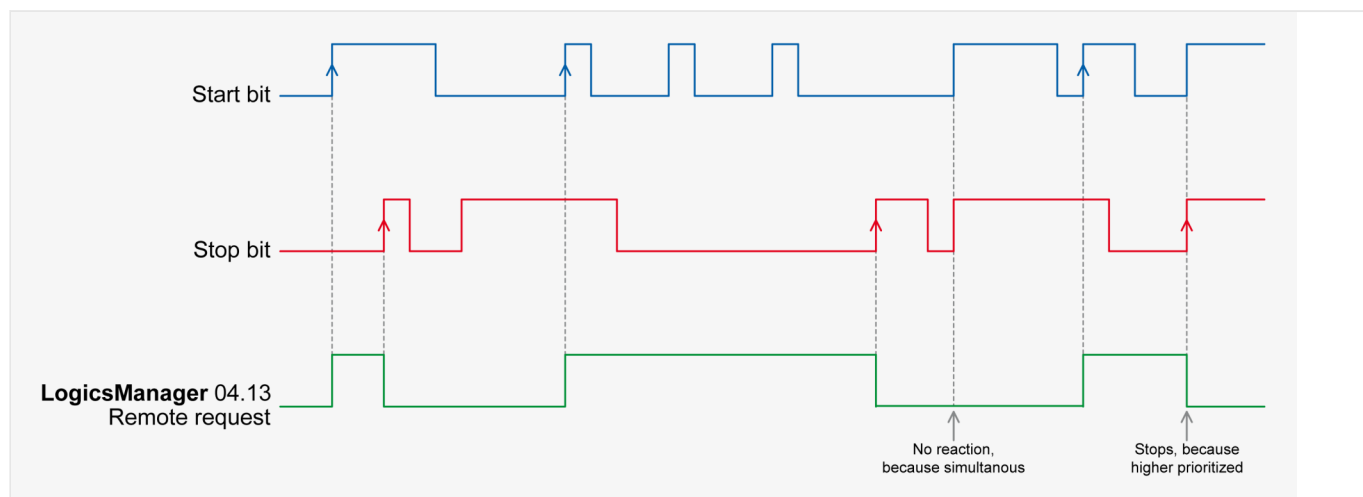

Fig. 293: Command variable
- The command variable "04.13 Remote request" changes to "0" (low) if the stop bit (ID 503, bit 1) changes from "0" to "1" (➡ Fig. 293).